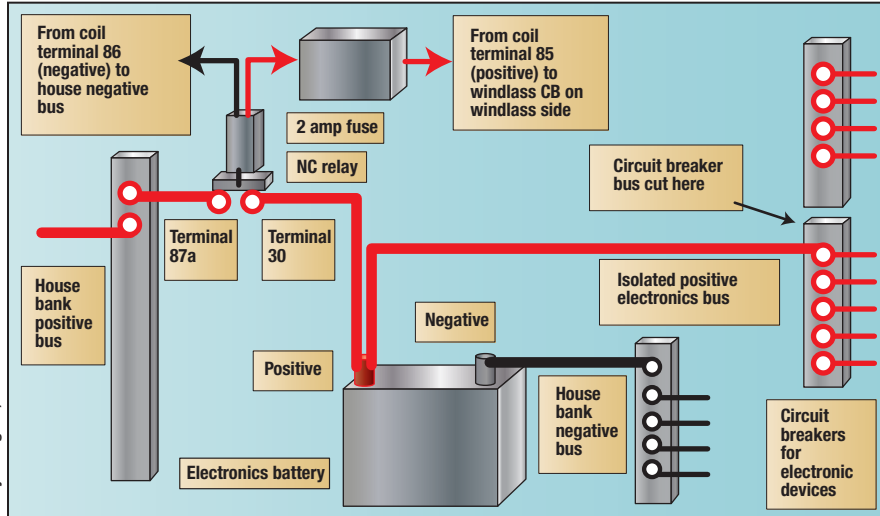

Figure 1 Wiring Schematic
is closed, the relay is energized and opens the circuit between the electronics battery and the house positive bus. A 2-amp inline fuse protects the relay coil. Label the fuse so that you'll always know what circuit it serves. Refer to **Figure 1** to gain an understanding of the changes. The relay is Jameco (jameco.com) part number 171432. It has normally open (NO) and normally closed (NC) contacts, so be sure to identify the correct terminals: terminal 85 is coil positive; terminal 86 is coil negative; terminal 30 is relay common and terminal 87a is normally closed. Terminal 87 is normally open and it's not used in this application. The 40-amp relay is the heaviest that I could find.